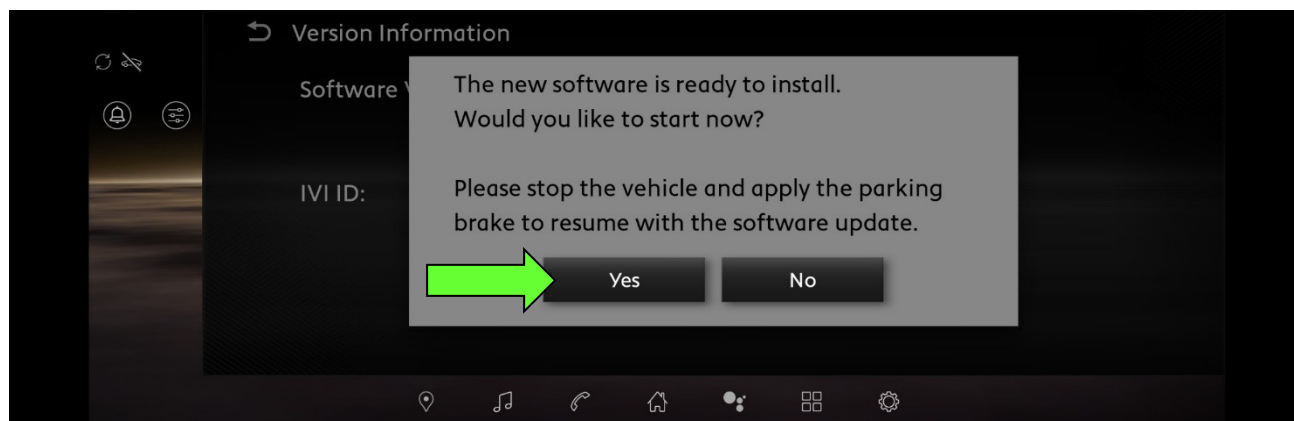

Figure 26
31. When the screen in Figure 26 is displayed, select **Yes**.